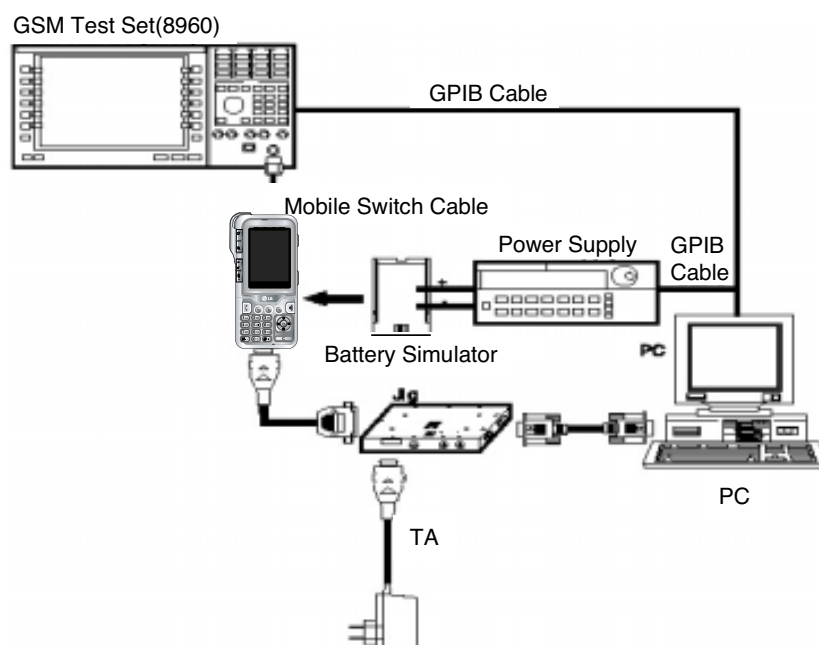

Figure 5-7. Equipment Setup
1. Connect as Fig 5-7(RS232 serial cable is connected between COM port of PC and MON port of TEST JIG, in general)